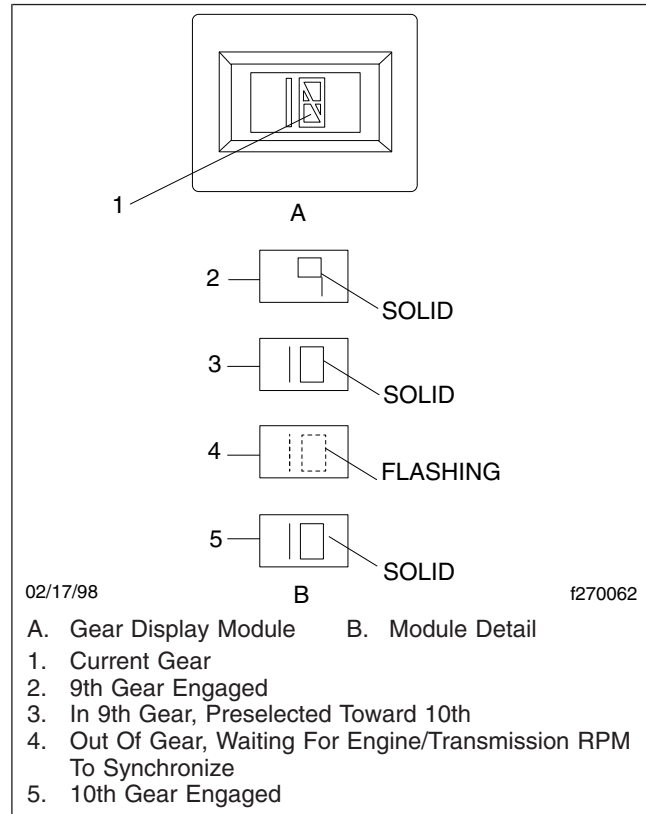

Fig. 14.8, Gear Display Module
- The gear display module mounted on the dashboard indicates the current gear position or transmission status. The display also flashes the next gear to be engaged while the transmission is in neutral during a gear change. See **Fig. 14.8**.